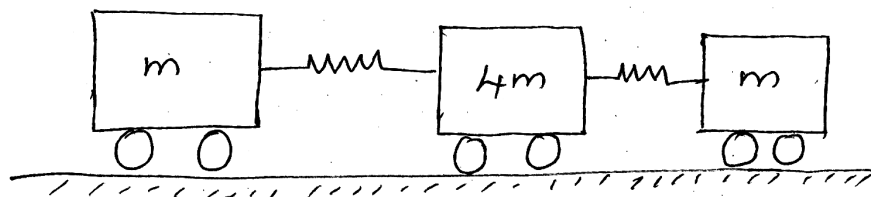

Fig 4. Q.9
- 9. Find the natural frequency and mode shape for the system shown in Fig. 4 Q9 by Holzer's method. 20